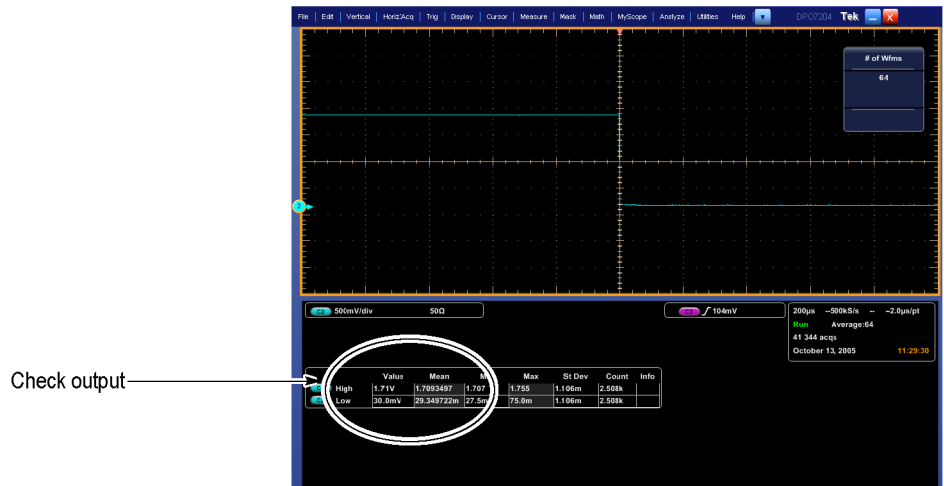

Figure 36: Measurement of trigger out limits
- c. Check Aux Out output against limits:** (See Figure 36: Measurement of trigger out limits on page 267.)